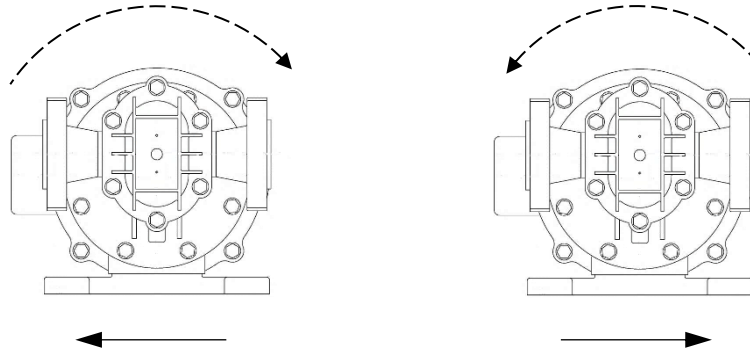

Figure 2b. Flow Direction vs. Motor Rotation viewed **FROM PUMP END**
- Direction of flow is dependent on direction of motor rotation. Reversing the motor direction, and therefore the drive shaft rotation direction, reverses flow. This will also change which port is the suction and which is the discharge, see Figures 2b and 2c
**Confirm Flow Direction** - As noted in **Section 4.3**, Eclipse Series pumps are bi-directional; the direction of flow is determined by the direction of motor rotation. Refer to Figures 2b and 2c.